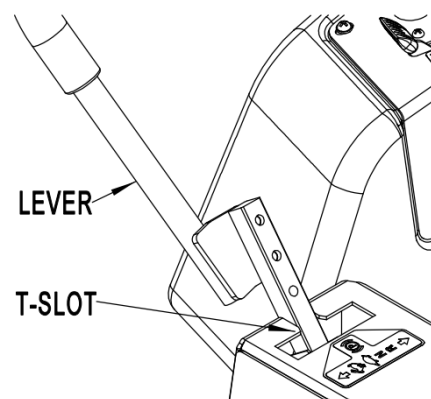

Figure 8
- The Choke Control (B) is the black knob on the console. Choke control is used to aid in starting a cold engine. Put the Choke control up or down to control the opening degree of the engine choke, the higher the knob is, the wider choke will be.
- The Throttle Control (C) is the large black lever located beside the console to the right of the seat. The throttle is used to control engine speed. Move the throttle lever forward to increase engine speed and backward to decrease engine speed.
- The PTO Switch (D) is the red push/pull knob located on the console. Pull PTO knob "up" to engage the electric clutch that drives the belt connected to the mower deck that drives the cutting blades. Push the PTO knob "down" to disengage the electric clutch that stops the blades from turning within a few seconds.
- When the levers are centered in the T-slot, the drive system is in the neutral position. With levers moved out in the T-slot, the driving system is in the parking brake position. (Refer to Figure 8)